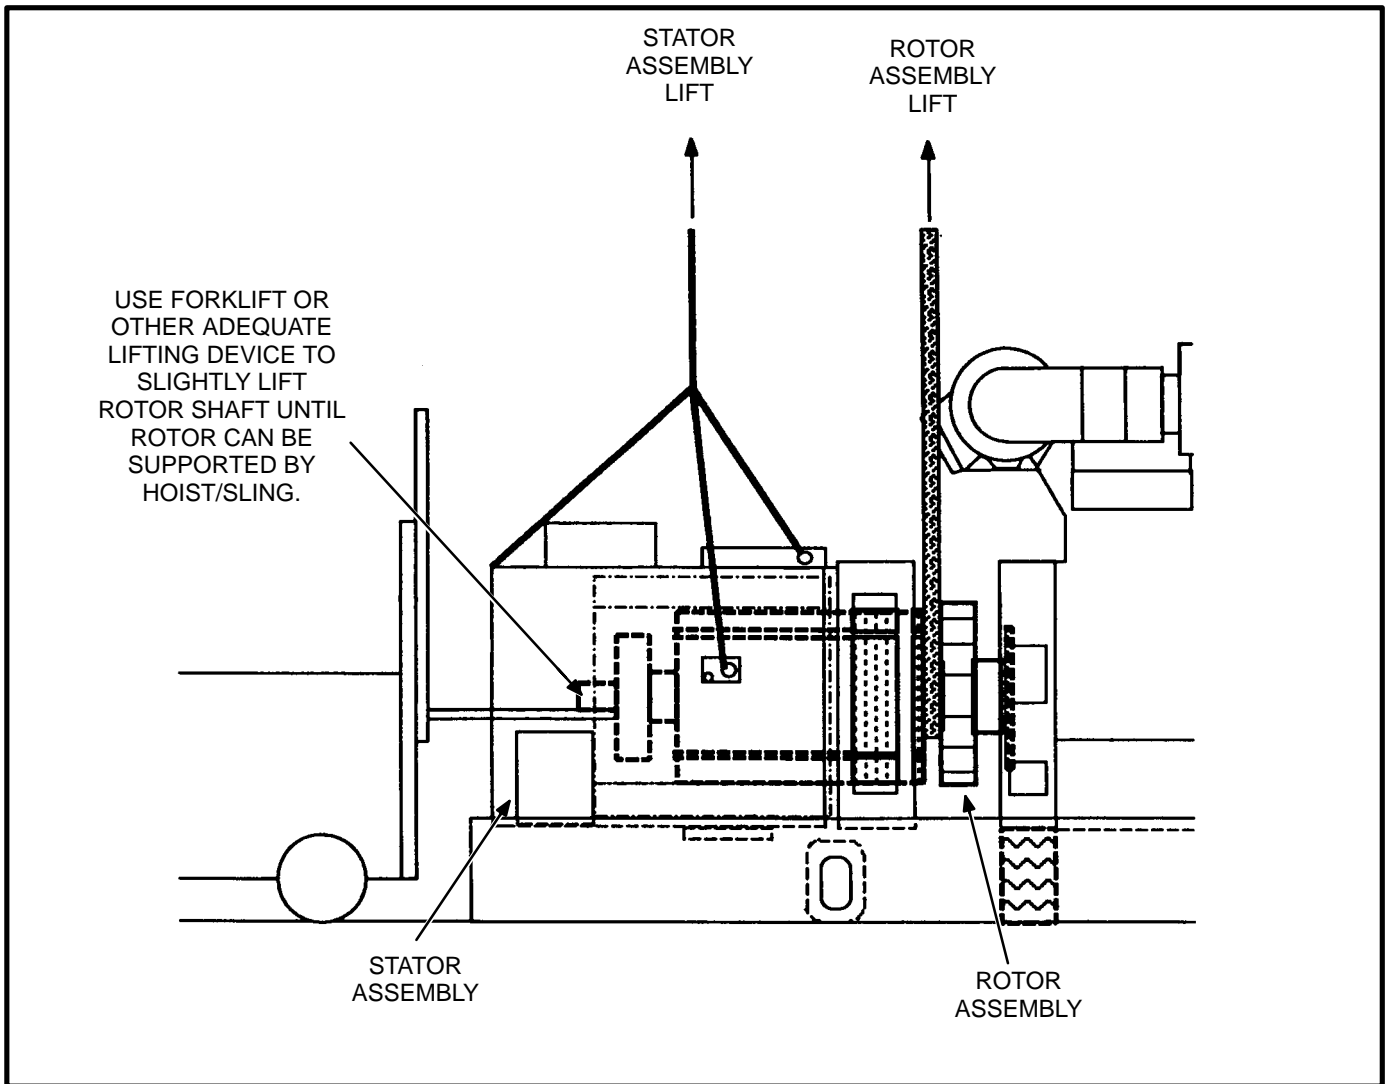

FIGURE 6-10. REMOVING STATOR ASSEMBLY
20. If the engine does not have chassis mounts at generator end, block the rear of the engine in place by supporting the flywheel housing. A length of steel channel and wooden blocking is required to support the rear of the engine. Place the channel and blocking under the flywheel housing. Lower the generator until most of the set weight is supported by the blocking (see Figure 6-10).